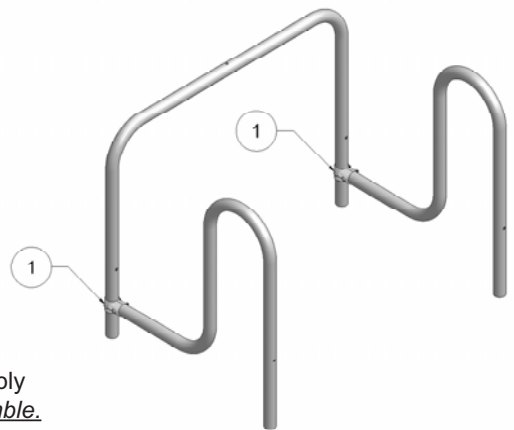

Fig. 5
**Step 1)** With a split tee, attach one (1) side support rail to the back support rail at the joint, (Labeled 1). Loose assemble. See Figure 5.
**Step 2)** With a split tee, attach the other side support rail to the other back support rail at the joint, (Labeled 1). Loose assemble. See Figure 5.